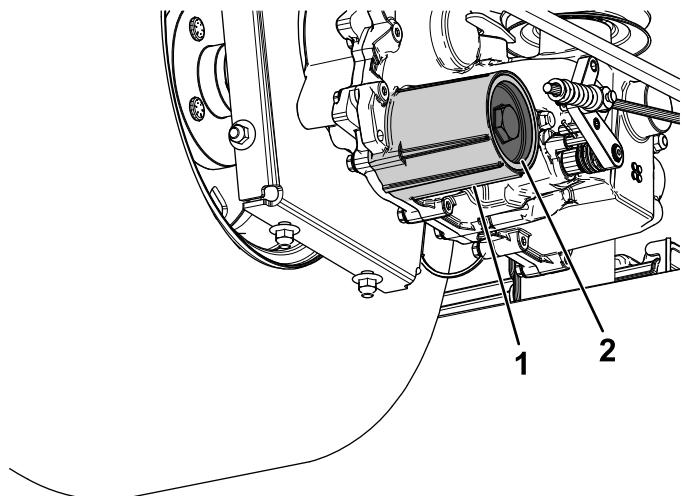

Figure 78
7. Remove the hydraulic-fluid filter cover from the transaxle to drain the fluid (Figure 78).